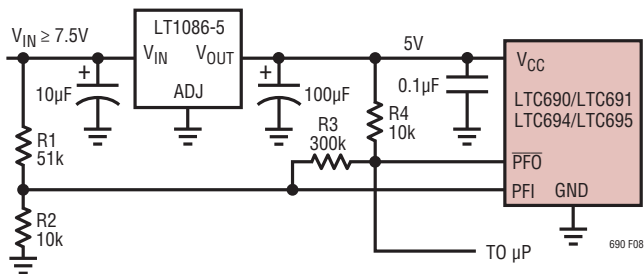

Figure 8. Monitoring *Unregulated* DC Supply with the LTC690's Power-Fail Comparator
The LTC690 family generates a Power Failure Output ( $\overline{\text{PFO}}$ ) for early warning of failure in the microprocessor's power supply. This is accomplished by comparing the Power Failure Input (PFI) with an internal 1.3V reference.  $\overline{\text{PFO}}$  goes low when the voltage at the PFI pin is less than 1.3V. Typically PFI is driven by an external voltage divider (R1 and R2 in Figures 8 and 9) which senses either an unregulated DC input or a regulated 5V output. The voltage divider ratio can be chosen such that the voltage at the PFI pin falls below 1.3V several milliseconds before the 5V supply falls below the maximum reset voltage threshold 4.75V.  $\overline{\text{PFO}}$  is normally used to interrupt the microprocessor to execute shutdown procedure between  $\overline{\text{PFO}}$  and  $\overline{\text{RESET}}$  or RESET.
The power-fail comparator, C3, does not have hysteresis. Hysteresis can be added however, by connecting a resistor between the  $\overline{\text{PFO}}$  output and the noninverting PFI input pin as shown in Figures 8 and 9. The upper and lower trip points in the comparator are established as follows:
**Example 1:** The circuit in Figure 8 demonstrates the use of the power-fail comparator to monitor the unregulated power supply input. Assuming the the rate of decay of the supply input  $V_{\text{IN}}$  is 100mV/ms and the total time to execute a shutdown procedure is 8ms. Also the noise of  $V_{\text{IN}}$  is 200mV. With these assumptions in mind, we can reasonably set  $V_L = 7.5V$  which 1.25V greater than the sum of maximum reset voltage threshold and the dropout voltage of LT1086-5 (4.75V + 1.5V) and  $V_{\text{HYSTERESIS}} = 850mV$ .